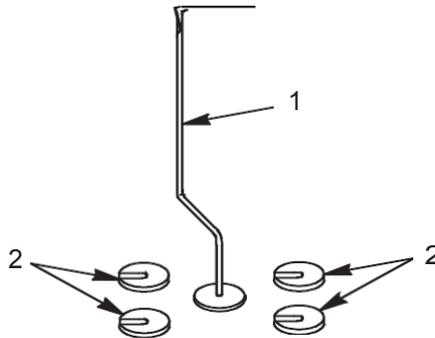

Figure 6. Preparing Test Weights.
1. Place test fixture (Figure 6, Item 1) on bench and add test weights (Figure 6, Item 2) until minimum load of 8.0 lbs (3.63 Kg) is reached.